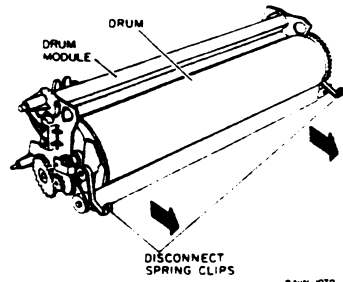

Figure 1. Removal of Drum Assembly from Drum Module
3. REMOVE DRUM ASSEMBLY FROM DRUM MODULE (FIGURE 1).